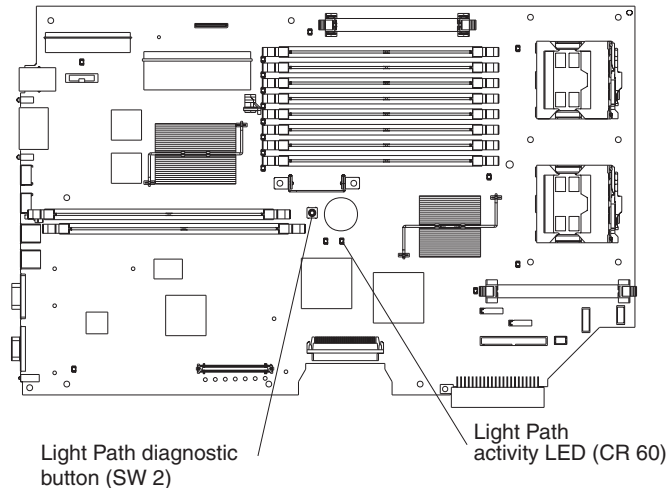

Figure 12. Lighting the light path LEDs without ac power
- 5) Press and hold the blue light path diagnostic button (see Figure 12) to illuminate the system board LEDs.